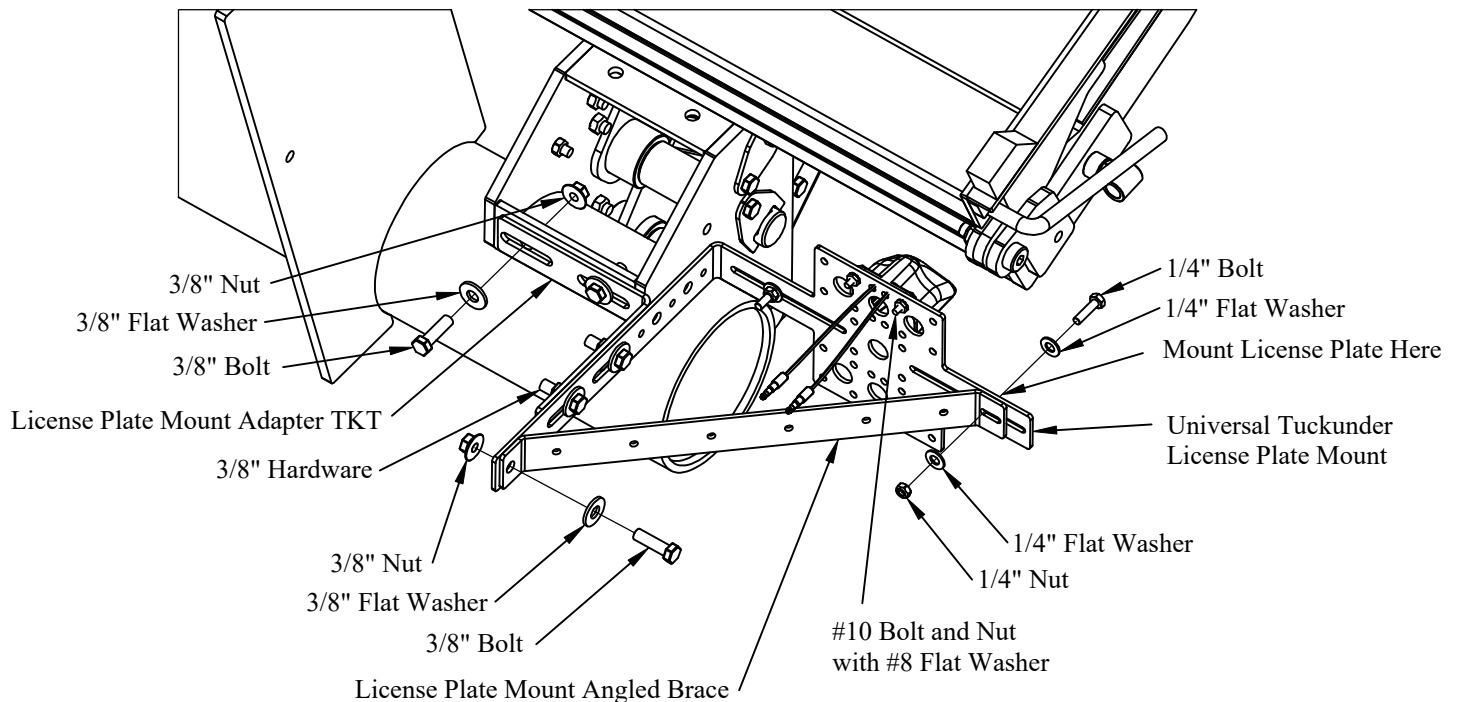

Figure 6: Recommended TKT mounting configuration.
1. **Install** the Universal Tuckunder License Plate Mount, License Plate Mount Adapter for TKT, and the License Plate Mount Angled Brace using the provided hardware (Figure 6).
2. **Install** the License Plate onto the Universal Tuckunder License Plate Mount using the provided hardware (Figure 6).